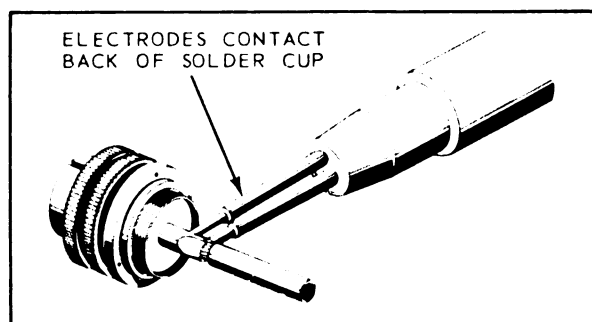

Figure 3-31. Resistance Soldering Pencil for Small Contacts
b. Small contacts are heated for soldering by use of pencil type resistance soldering tool shown in figure 3-31. The two electrodes of the tool are placed in contact with the side of the solder cup so that the heating current will pass through the wall of the cup. When the solder in the cup flows, insert the pre-tinned wire. Continue to apply heat to connection until solder flows to form smooth fillet, then stop current and allow joint to cool without movement.